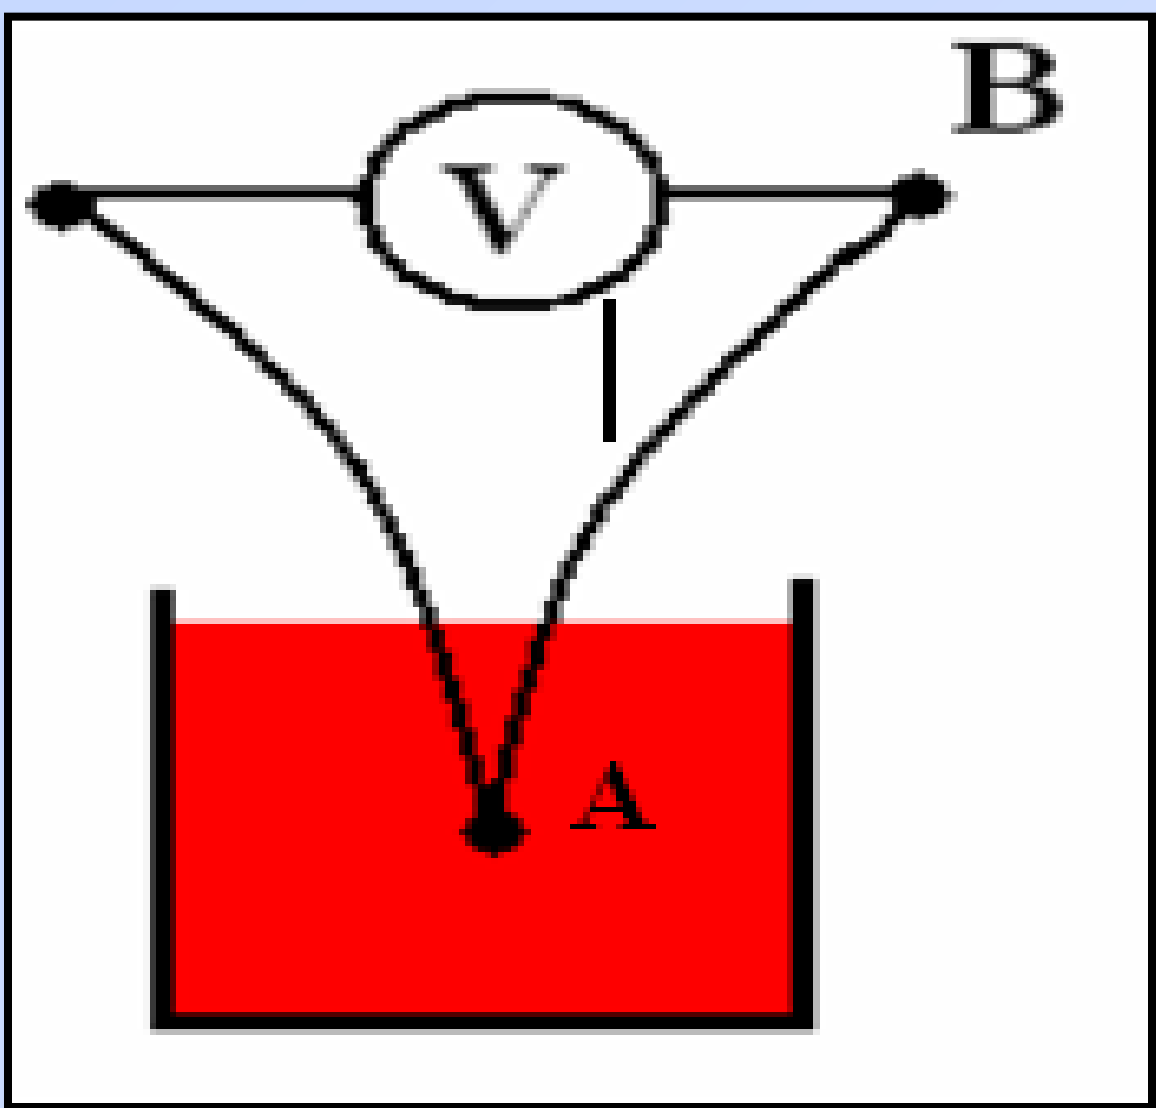

Figure 1. A thermocouple with junction at A set in an environment; red medium.
When two different metals are in contact, electrons tend to pass from the metal with the higher concentration of free electrons into the metal with lower concentration. This results in a temperature dependent voltage difference; contact voltage, *figure 1*. This phenomenon is known as Seebeck effect.
If only one junction is used, the reference point B is that of the environment T_o . If the temperature of junction A is increased a potential difference changes by ΔV , Figure 1.
1. Connect the circuit as shown in *figure 1*